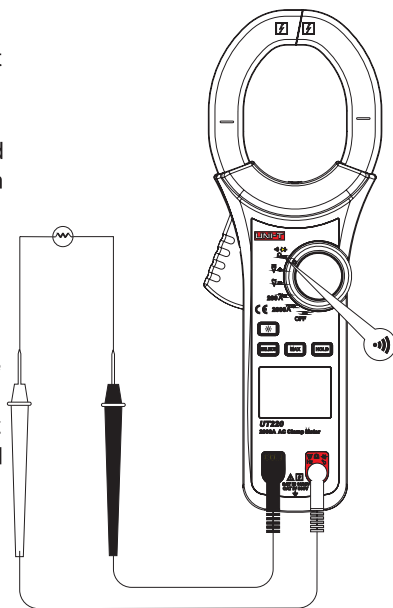

Figure 7
5. Conduction detection (·) (See Figure 7)